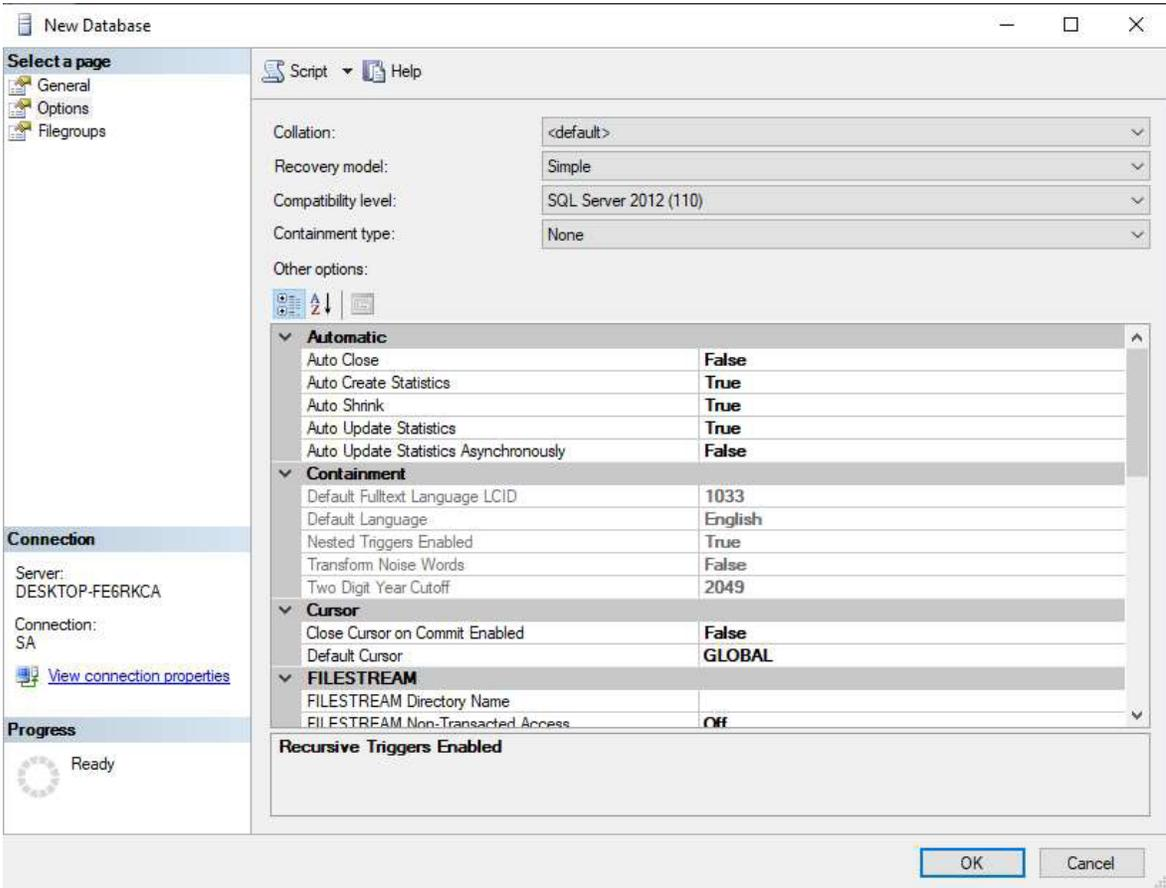

Figure 2
- 7. Select the Options page from the Select a Page pane. (Figure 2)